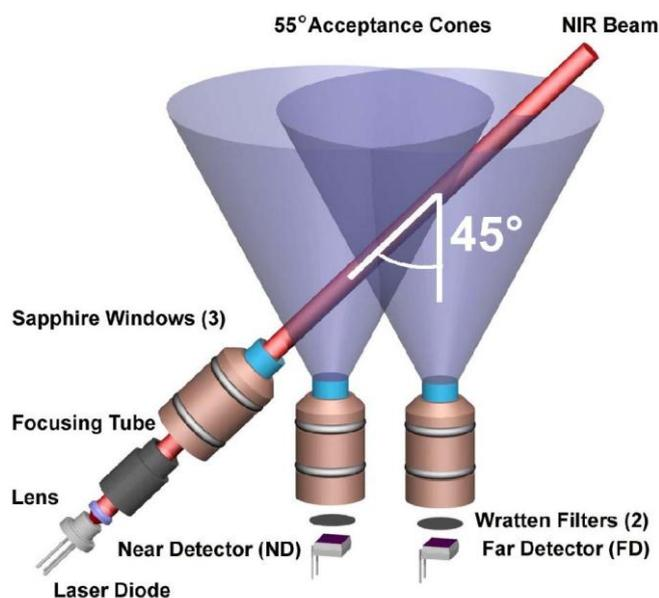

Figure 4-2. Schematic of optical system
The heart of the OBS-5+ is an optical system comprised of a near infrared (NIR) laser diode and a photo detector positioned 10 mm from the laser, called the near detector (ND), and one mounted 25 mm from the laser, called the far detector (FD), see Figure 4-2. The detector acceptance-cone angle is 55°, which means that photons must enter the detector sapphire windows at angles less than 27.5° to be detected. The laser light is collimated to a 3 mm by 1 mm elliptical beam with convergence < 2.5 mrad. The angle between the NIR beam and detector acceptance-cone axes is 45°. The OBS-5+ can detect light scattered by particles illuminated by the NIR beam at angles between 105° to 165°. With its automatic-power-control circuit, the laser diode provides stable optical power over time and the 0 to 30°C operating temperature range.
In Figure 4-2, suspended particles scatter light from the NIR beam onto the near and far detectors, and suspended solids concentration (SSC) is estimated with signals counts from these detectors by a microcontroller, using a set of logic rules and lookup tables derived from calibration data. Counts are the digital equivalents of the ND and FD signals and are proportional to backscatter intensity. Sample calibration curves relating ND and FD counts to sediment concentration in g L^{-1} are shown on Figure 4-3. As particle concentration increases from 0, the ND and FD signals rise to maxima at peak concentrations, shown by the red (open) and blue (solid) arrowheads above the x axis. Beyond the peak sediment concentrations, light attenuation is the dominant factor controlling the light level at the detectors, and so the ND and FD counts decline. The scattered NIR must travel farther to be detected by the FD than by the ND, and therefore the peak of the FD curve occurs at a lower sediment concentration than the peak of the ND curve. The instrument exploits these peak offsets to estimate sediment concentration. Using either the ND or FD counts, whichever is indicated by the logic rules, the microcontroller does a spline interpolation between calibration values to derive an SSC value. It then combines this value with time and pressure data, and sends the results to a PC.